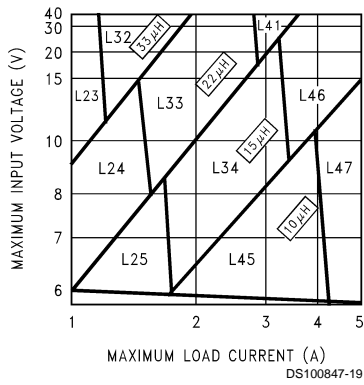
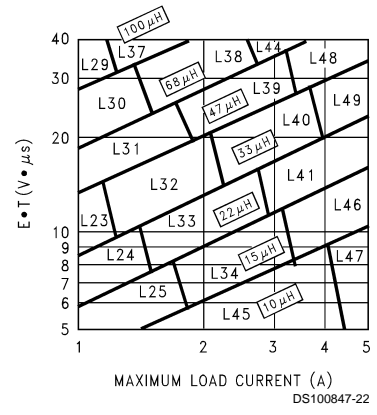

FIGURE 3. LM2679-3.3
FIGURE 6. LM2679-ADJ
Step 3: Determine the inductor required by using one of the four nomographs, *Figure 3* through *Figure 6*. Table 1 provides a specific manufacturer and part number for the inductor.
Step 5: Determine an input capacitor from Table 4 for fixed output voltage applications. Use Table 2 to find the specific capacitor type. For adjustable output circuits select a capacitor from Table 2 with a sufficient working voltage (WV) rating greater than $V_{in\ max}$, and an rms current rating greater than one-half the maximum load current (2 or more capacitors in parallel may be required).
Step 3: Use the nomograph for the 3.3V device, *Figure 3*. The intersection of the 16V horizontal line ($V_{in\ max}$) and the 4A vertical line ($I_{load\ max}$) indicates that L46, a 15 μ H inductor, is required.
Step 3: To use the nomograph for the adjustable device, *Figure 6*, requires a calculation of the inductor Volt•microsecond constant ($E \cdot T$ expressed in $V \cdot \mu\text{s}$) from the following formula:
Using *Figure 6*, the intersection of 27V• μs horizontally and the 3.5A vertical line (I_{load} max) indicates that L48, a 47 μH inductor, or L49, a 33 μH inductor could be used. Either inductor will be suitable, but for this example selecting the larger inductance will result in lower ripple current.
Important Note: When using the adjustable device in low voltage applications (less than 3V output), if the nomograph, *Figure 6*, selects an inductance of 22 μH or less, Table 6 does not provide an output capacitor solution. With these conditions the number of output capacitors required for stable operation becomes impractical. It is recommended to use either a 33 μH or 47 μH inductor and the output capacitors from Table 6.